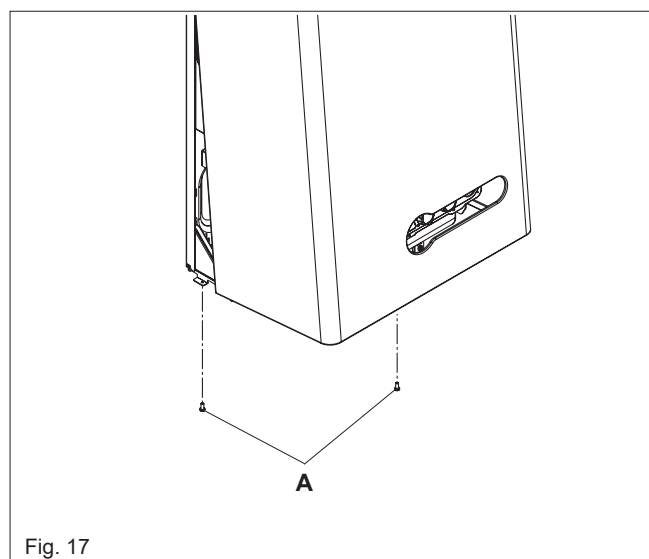

Fig. 17
4.7.1 CASING REMOVAL (fig. 17)